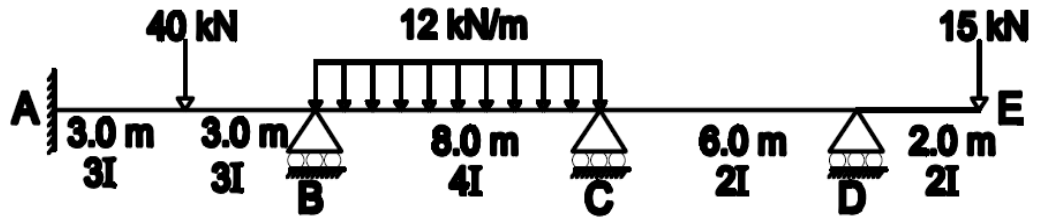

Figure 4
4. Analyse the beam using displacement method [Figure.4]. Hence find support reaction at 'A'. Also draw B.M.D. [14 M]